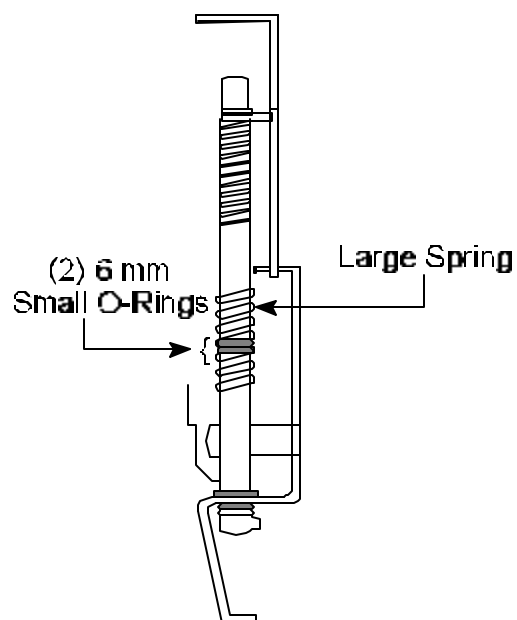

Figure 8
16. **Slide** Needle Bar through large spring and two 6 mm O-rings. See *Figure 8*.